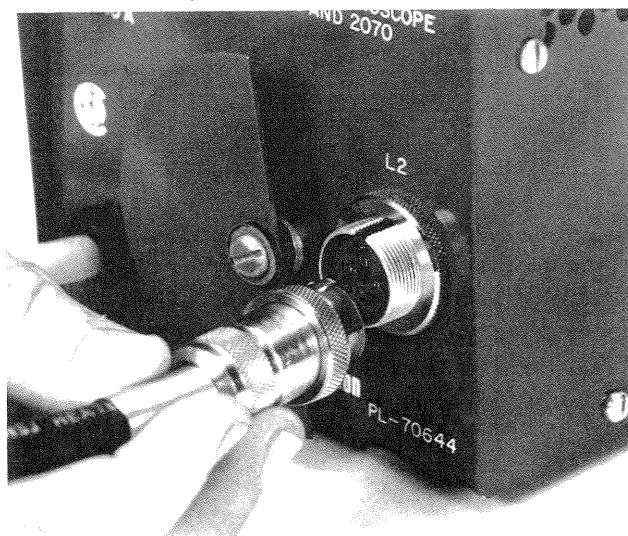

Figure 16.
11. Make sure power supply is not connected to wall outlet. Connect the cord from the lamp-holder to the outlet on the back of the power supply to correspond with L1 or L2 found on the lamp (Step 1) (Figure 16).